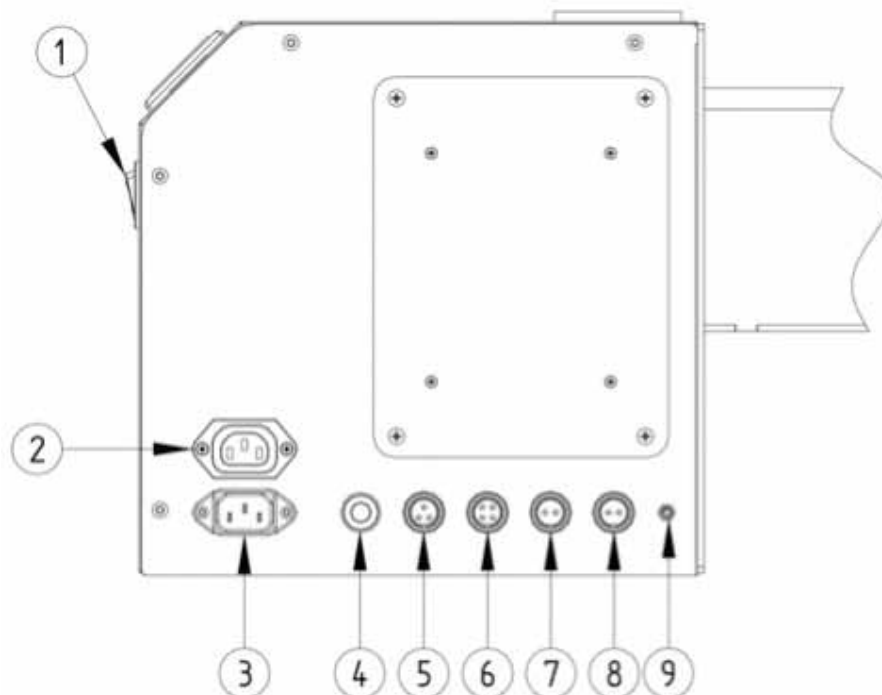

Fig. 12 Electrical connections
2. Power by switching on the ON/OFF main power button, no. 1 (see fig. 12) and check that the display is turned on;
3. Press button no. 4 (see fig. 12) to start up the fuel supplying auger, and keep it pressed down until the auger itself is full (to check that the auger is full it is sufficient to verify that the pellets have begun to flow from the discharge connection of the auger, through the flexible pellet feeding tube, to the burner); when the auger is full release button no.4;